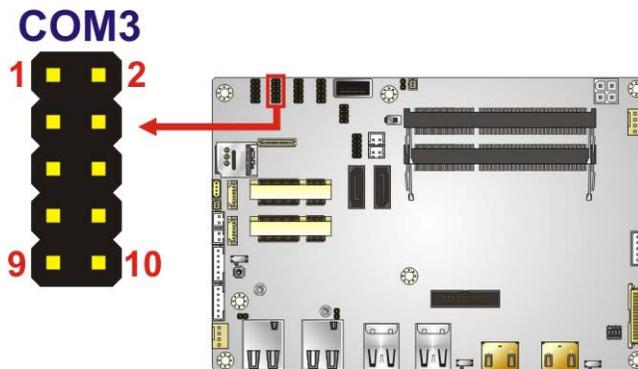

Figure 4-20: RS-232/422/485 Connector Location
- CN Location: See **Figure 4-20**